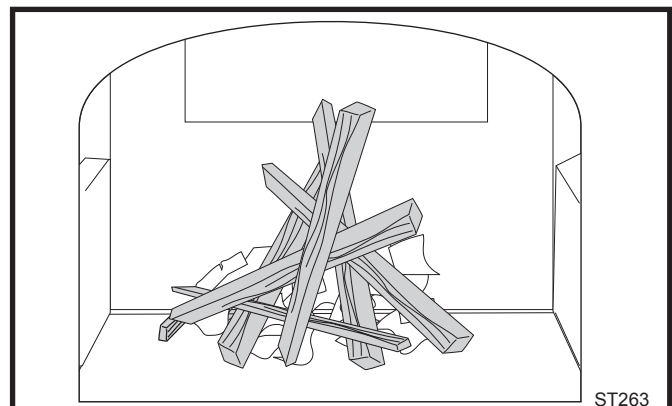

Fig. 19 Start the fire with newspaper and dry kindling.
2. Place several sheets of crumpled newspaper in the stove. Place eight or ten finge sized sticks on to the paper, then lay two or three larger sticks of split dry wood of approximately 25-51 mm (1-2") in diameter. (Fig. 19)
2. Place several sheets of crumpled newspaper in the stove. Place eight or ten finger sized sticks on to the paper, then lay two or three larger sticks of split dry wood of approximately 25-51 mm (1-2") in diameter. (Fig. 19)